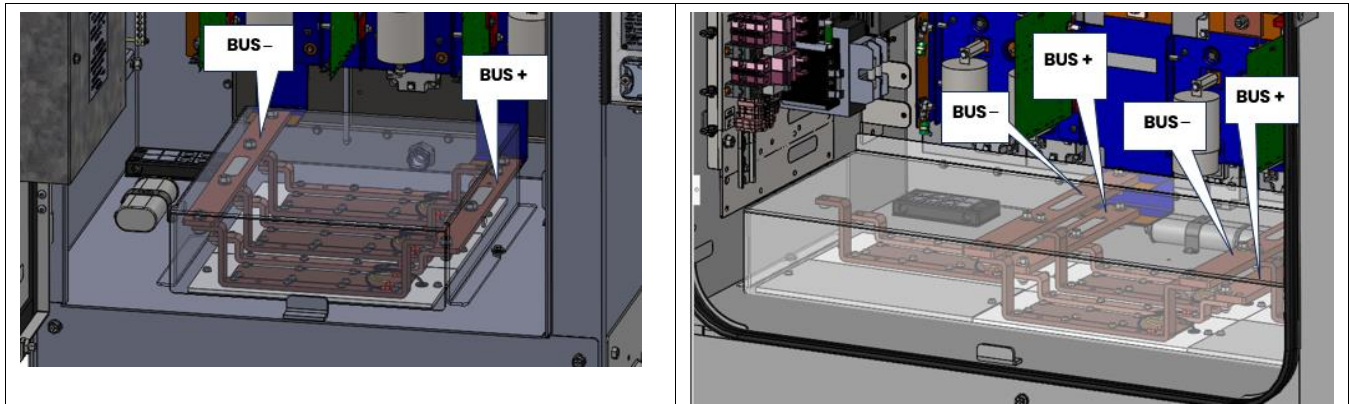

Figure 1: DC Bus voltage measurement locations.
- **Warning!** DC bus capacitors can store lethal energy. Before servicing, verify their voltage is safely discharged by measuring at points shown in Figure 1 below for 2N4 and 4N4. Voltage must be below 50VDC. See the safety topic in Figure 13.
Drives implement capacitors that manipulate electrical energy in a high-voltage state. Bleeder resistors are included in the circuit to attenuate this voltage, but it takes time to reach a safer, low-voltage state. Allow at least 300 seconds after removing power and performing LOTO procedures before accessing internal power circuits, and always prove circuits dead while wearing appropriate PPE. To measure see Figure 1.